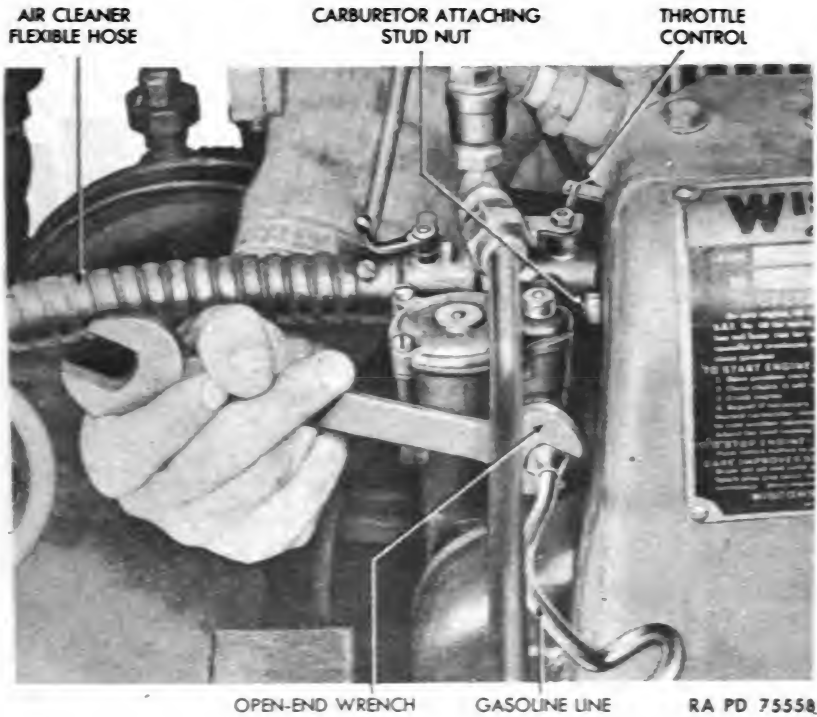

Figure 114 — Removing Steam Generating Plant Engine Carburetor
(5) REMOVAL OF CARBURETOR (fig. 114).
(6) INSTALLATION OF CARBURETOR (fig. 114).